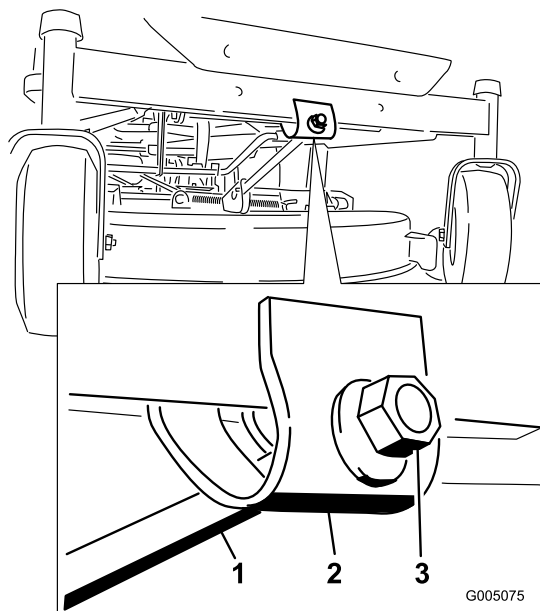

Figure 46
- To adjust the front-to-rear blade slope, rotate the adjustment nut in the front of the mower (Figure 46).